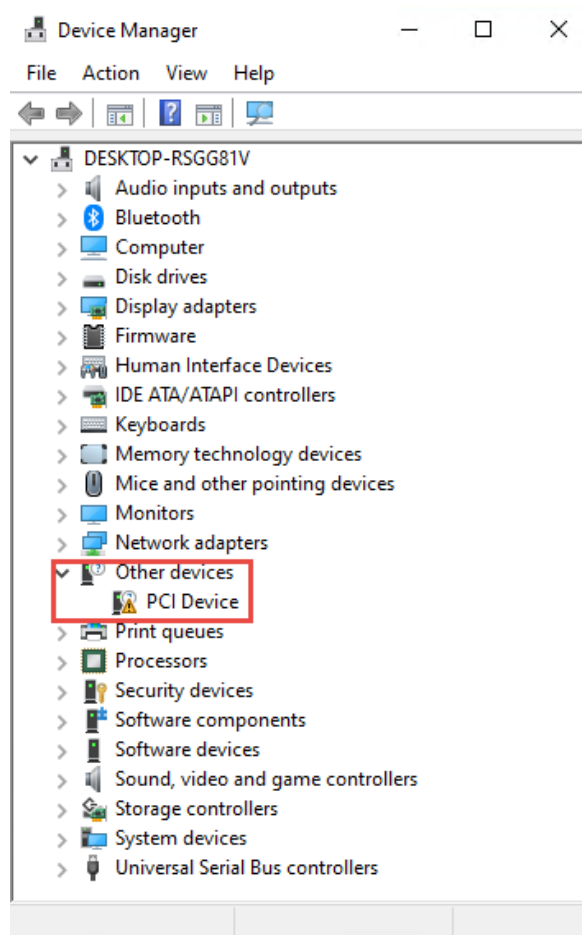

Figure 4-6 PCI Device in the Device Manager
7. Open the **Device Manager** in the Win10, you may see an unknown “**PCI Device**” (See **Figure 4-6**), that means the PCIe design is detected by the Host via Thunderbolt 3 interface. If the PCI device does not appear in the Device Manager, please re-plug the Thunderbolt cable again then check again.